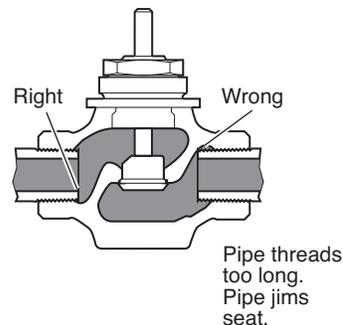

Figure-3 Installation of Screwed End Valves.
3. Use a pipe wrench to fully tighten the valve to the pipe. Do not over tighten or strip threads. See Table-7 and Figure-3 for the normal engagement length of the threads. Figure-3 shows a means of tightening the pipe so that the valve is not twisted or crushed.